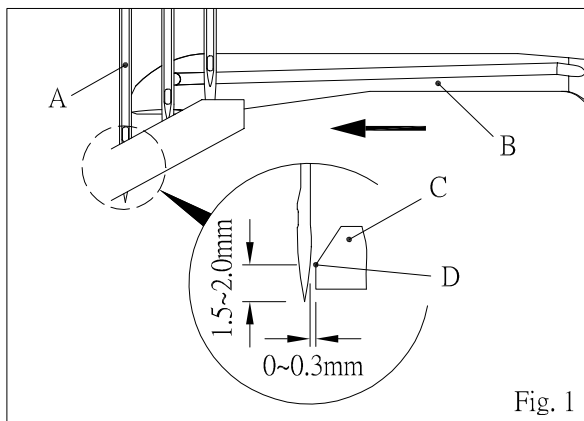
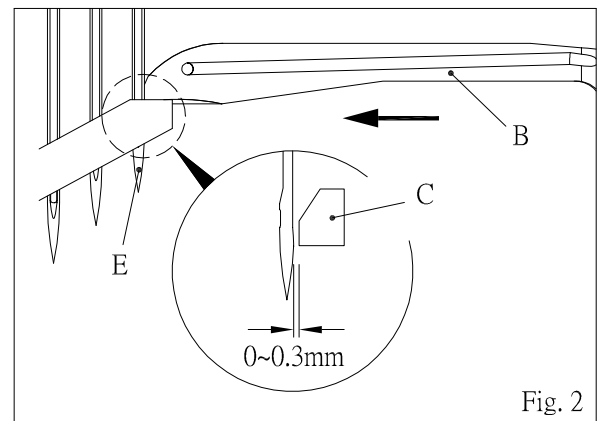

Fig. 1
Fig. 2
There are 6 marks on thread take-up A and the third mark line from right to left, should even with the edge of bracket B and can be adjusted by screw C and rear thread guide's D portion as shown on illustration, can be adjusted by screw E. And bath can be adjusted according the arrow direction in order to obtain tighten or loosen effects. (Fig. 1、2)
When left needle comes down to the half point the thread A must get off from the highest position of looper thread take-up C. The adjustment is made by loosening screw B, turn the looper thread take-up C to the proper position and tighten the screw B. (Fig. 1、2)
It will be easier to conduct some adjustments by taking off the presser foot as follows : Loosening screw B in order to loosen stopper B, loosening screw D and collar screw E pressing down level A, lifting needle bar in order to take off presser foot. (Please refer to Fig. 1 and Fig. 2)
When needle bar reached to its lowest dead point, the ridge line C of rear needle guide (A) should be positioned at the center of right needle eye B. (Fig. 1)
0.2~0.3 mm and the clearance between rear needle guide and leftest needle D should be 0~0.05 mm by then, the clearance between looper F and rightest needle E should be 0~0.05 mm and looper should touch middle needle lightly and the clearance between rear needle guide and leftest needle D should be 0.2~0.3 mm. (Fig. 2)
How to set the angle and timing of front needle guide : When looper B reach the center of left needle A, the ridge line D of frons needle guide C should positioned at 1.5~2.0 mm above from the tip of needle and the clearance between left needle A and front needle guide C should be 0~0.3 mm and when looper B retreated to right needle E, the clearance between needle and front needle guide C should be 0~0.3 mm. (Fig. 1、2)
The distance between spreader A and the surface B of needle plate should be 8.5~9.5 mm. (Fig. 1)
When spreader looper moves to its left, the hook blade C meets left needle, the clearance between hook blade C and left needle should be 0.5~0.8 mm, when spreader looper moves to its leftest dead point, the distance between its hook blade C and the center of left needle should be 4.5~5.5 mm. When adjusting, loosen screw D and E from spreader arm in order to adjust its position of spreader looper. (Fig. 2、3)